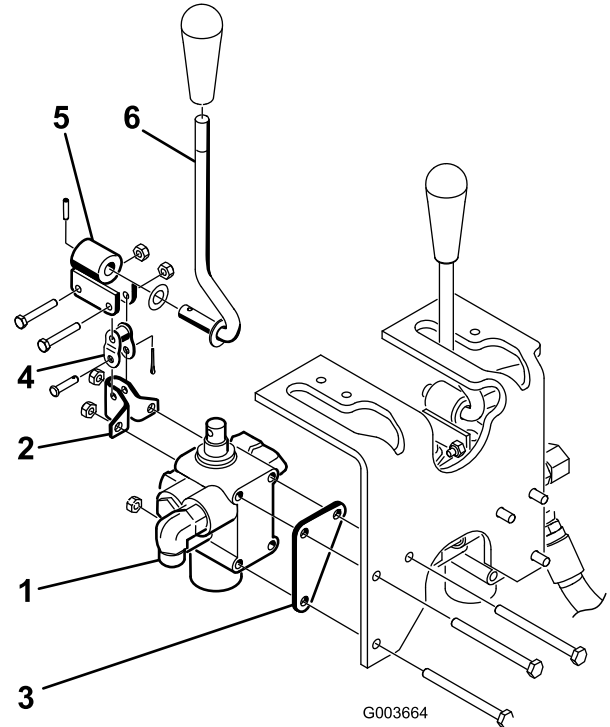

Figure 5
3. Loosely mount the pivot lever assembly to the valve spool and to the offset link with 2 bolts (#10 x 1-1/4 inch) and 2 locknuts (Figure 5). Do not tighten at this time.